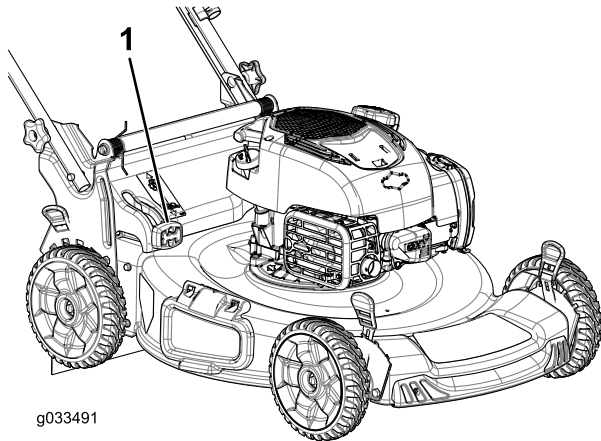

Figure 22
- **To bag the grass and leaf clippings**, press the button on the bag-on-demand lever and move the lever forward until the button on the lever pops up (Figure 22).